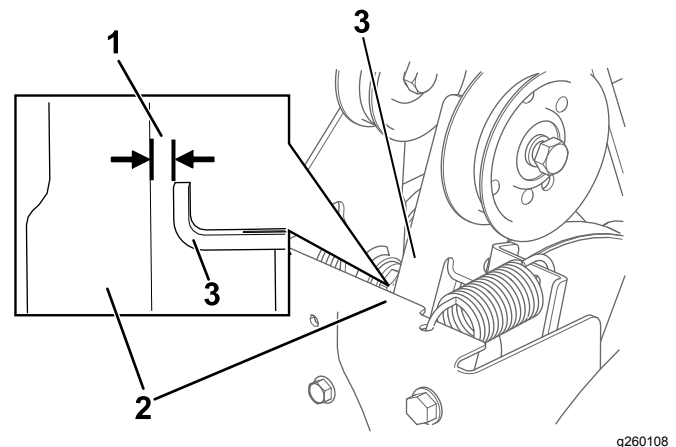

Figure 36
3. With the auger/impeller lever disengaged, ensure that the gap between the auger clutch arm and the frame of the machine is 1.5 mm (1/16 inch) as shown in Figure 36.